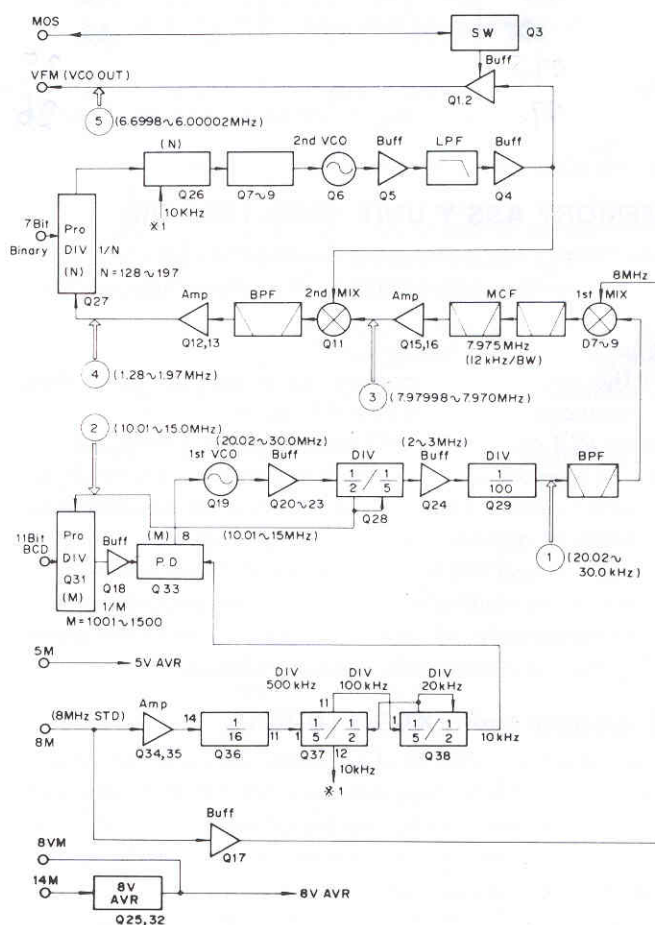

Fig. 15 VCO unit block diagram
The block diagram of the VCO unit is shown in Fig. 15, and a memory frequency chart is given in Table 3.
2. ① ~ ⑤ mark shows each frequency of block diagram on the VCO unit Fig. 15.